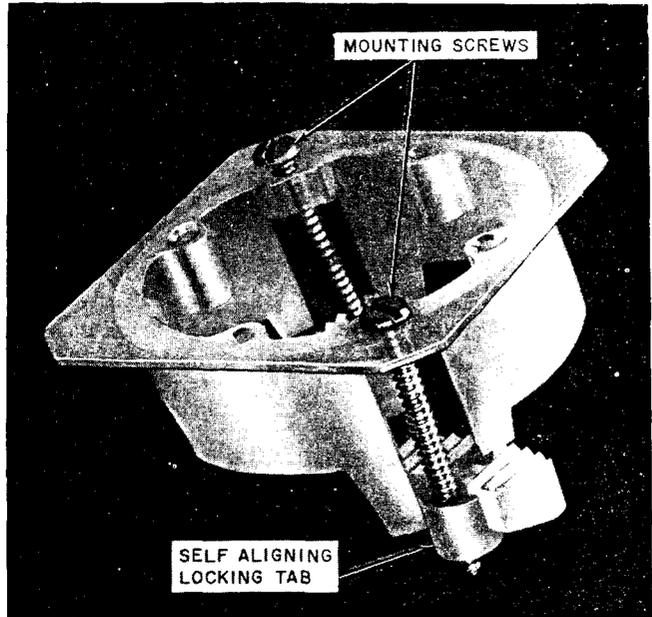
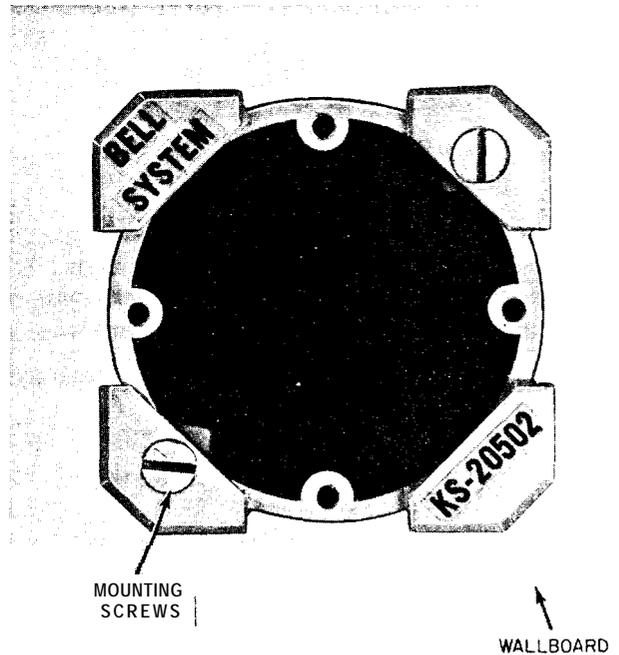

Fig. 1—KS-20502, List 2 Mounting Bracket
Fig. 2-KS-20502, list 1 (MD) Bracket, Mounted in a 2-1/4 Inch Hole (Front View)
1.01 This section provides information on the identification and installation of the KS-20502, List 2 multiple use mounting bracket (Fig. 1). The KS-20502, List 2 mounting bracket is a direct replacement for KS-19407, List 1 steel bracket rated MD and the KS-20502, List 1 plastic bracket (Fig. 2) rated MD.
3.02 The mounting bracket can be inserted into the hole from the wall side. Self-aligning locking tabs (Fig. 1) lock to the back of the wall surface when the two mounting screws are tightened.